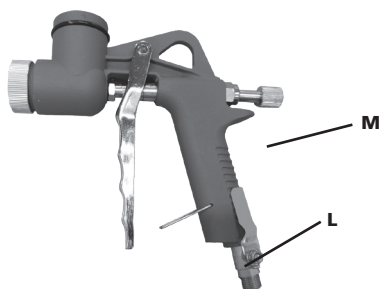

Fig.2
To set the product flow turn the knob (M) (Fig.2). To set the air flow turn the lever (L) (Fig.2).